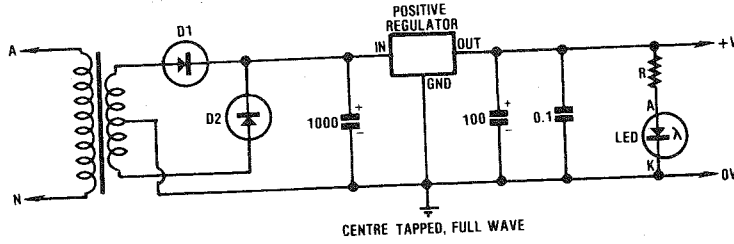

Fig.3: this single supply circuit uses D1 and D2 to provide full wave rectification from a centre-tapped transformer.
Fig.3 is a single supply version of the board using a 30V centre-tap (CT) or 24V CT transformer. Here, D1 and D2 provide full wave rectification and the resulting ripple is 100Hz. The unregulated DC voltage will be between +18-22V.